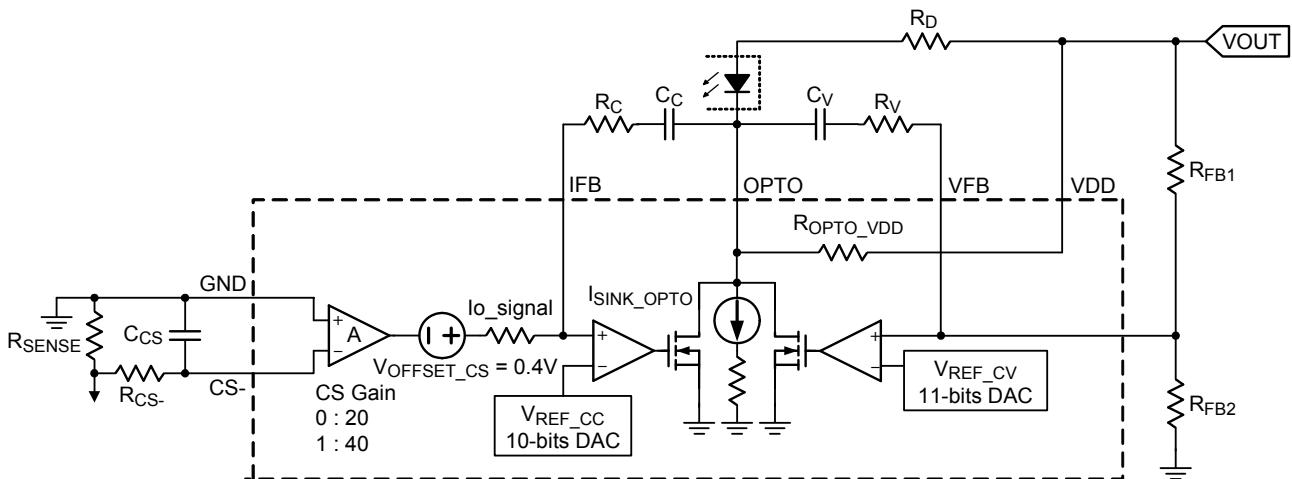

Figure 5. CV Loop and Current-Sense Amplifier
As shown in Figure 5, the RT7202KJ incorporates an error amplifiers (EA) to regulate output voltage. The output voltage is determined as :